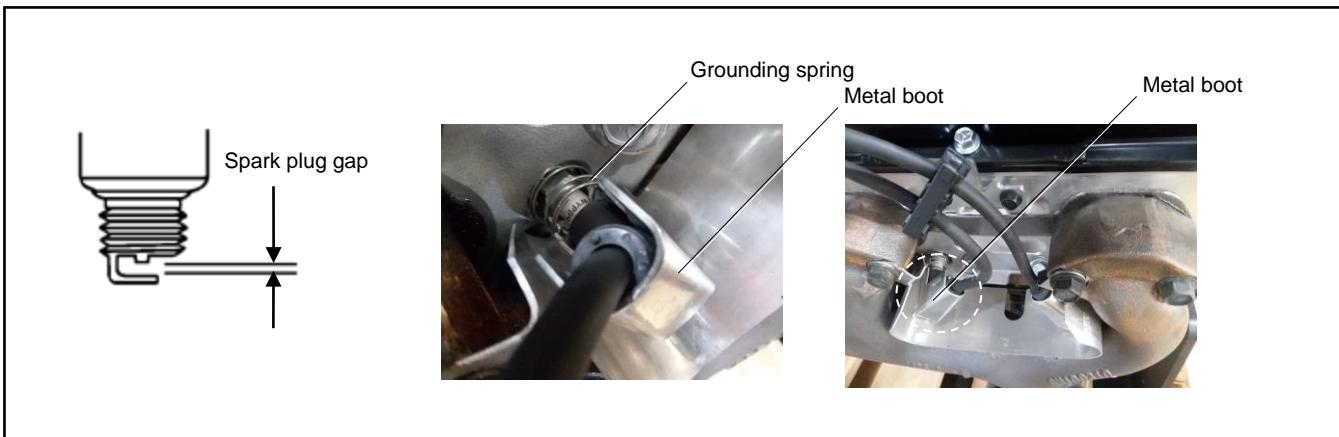

Figure 29 Spark Plug Gap
3. Remove the metal boot from the spark plug wires. Disconnect the spark plug wires and remove the grounding spring. See Figure 29.
7. Use a spark plug gap tool to measure the gap on each spark plug. Adjust the gap to specification. See Figure 29.
10. Insert the grounding spring over the spark plug. See Figure 29.